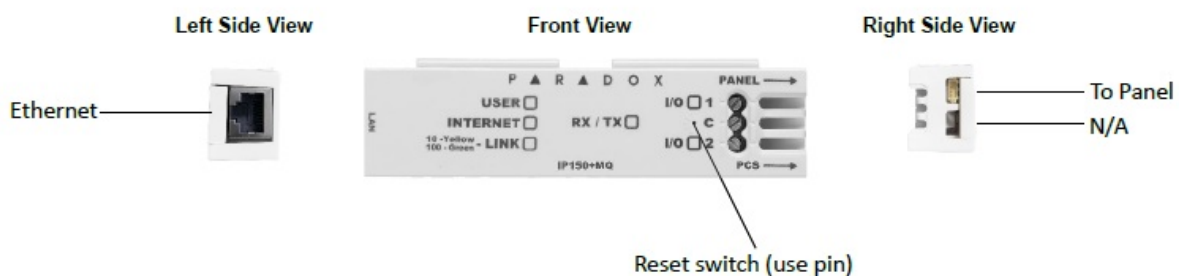

Figure 4
2. Refer to Figure 4 for guidance.
Connect the serial output of the IP150+MQ to the Serial port of the Paradox panels. If it is Paradox + Series, connect it to Serial1 as it is the main reporting channel, as shown in Figure 4. If the panel is powered up, the on-board LEDs will illuminate to indicate the IP150+MQ's status.
Connect the Ethernet cable to an active Ethernet socket and the left side of the IP150+MQ, as shown in Figure 4.
To connect the IP150+MQ, plug in the Serial cable to the panel, refer to Figure 4. After a few seconds, the RX/TX LED starts flashing; this indicates that the IP150+MQ is powered and is communicating with the panel.